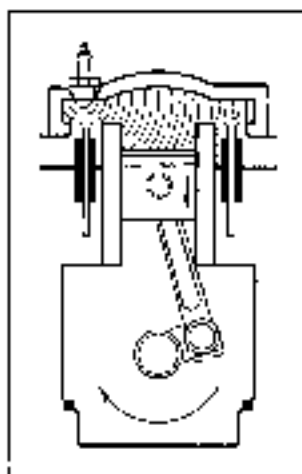

Figure 6-16:
3. **Power stroke:** (See Figure 6-16.) The spark plug produces a spark across the gap between its electrodes. This spark ignites the compressed fuel/air mixture. Then the burning fuel/air mixture explodes, creating intense pressure that forces the piston *down* again. The power that pushed the piston down is transmitted, via the connecting rod, to the crankshaft. It then travels, via the drive train, through the clutch, the transmission, the driveshaft, the differential, and so on, to the wheels. (A quick overview of this process appears in Chapter 4.)